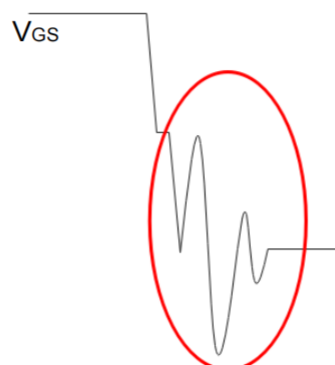

Figure 7-4 Gate Ringing Phenomenon
- 1) The gate signal rings, causing MOS damage (as shown in Figure 7-4);